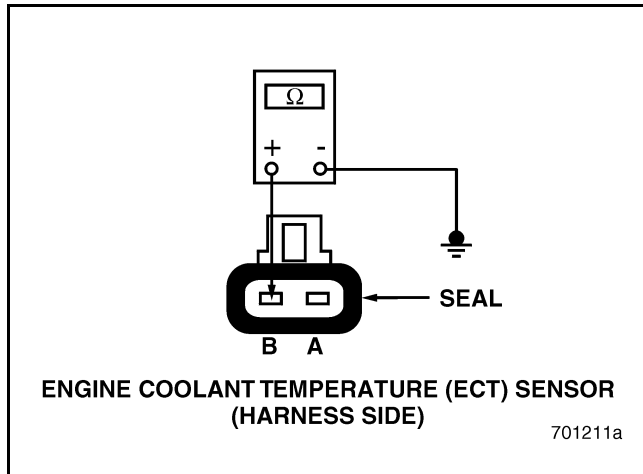

Figure 163
4. Check for continuity between pin B of the ECT Sensor harness connector and a good ground (see Figure 163).